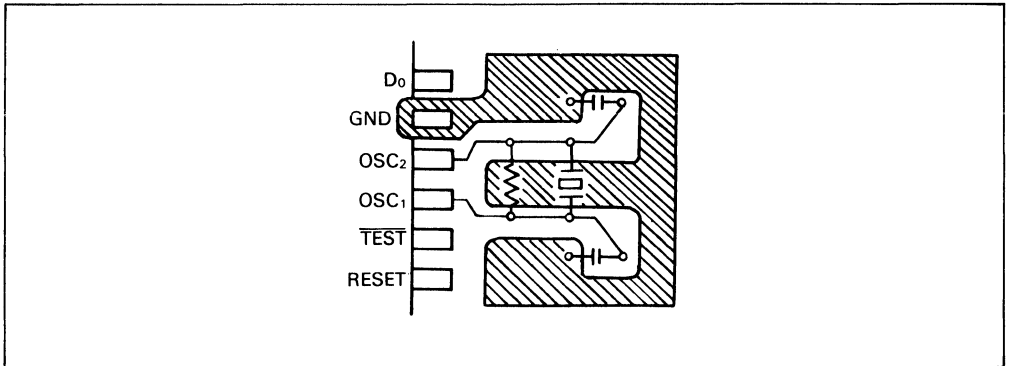

Figure 13. Layout of Crystal and Ceramic Filter
ator can be selected as the oscillator type. Refer to table 13 to select the type. In addition, see figure 13 for layout of the crystal or ceramic filter.
2. Wiring among OSC₁, OSC₂, and elements should be as short as possible, and never cross other wiring. Refer to figure 13.